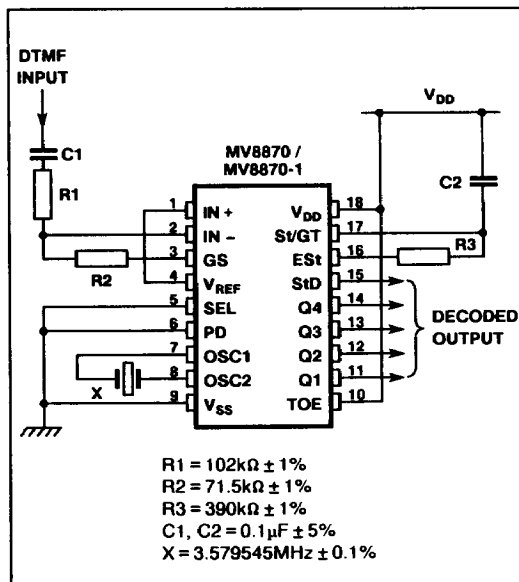
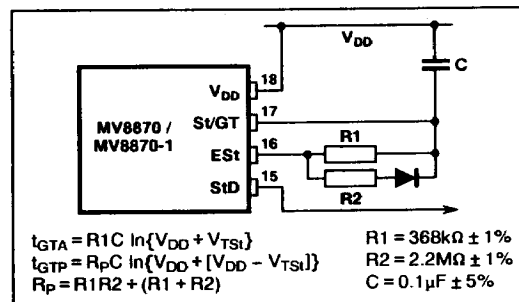

Fig. 11 Single ended circuit for BT/CEPT Specs.
Fig. 12 Non-symmetric guard time circuit.
The circuit shown in Fig.11 illustrates the use of the MV8870-1 in a typical receiver system. The BT specification defines the non-operate level as input signals below -34 dBm. This is obtained by choosing R1 and R2 to give 3dB of attenuation so that an input of -34 dBm corresponds to -37 dBm at the op. amp. output pin (GS). The tolerances on R3 and C2 give a tolerance on guard time of 6%. For better performance the non-symmetric guard time circuit shown in Fig.12 is recommended.